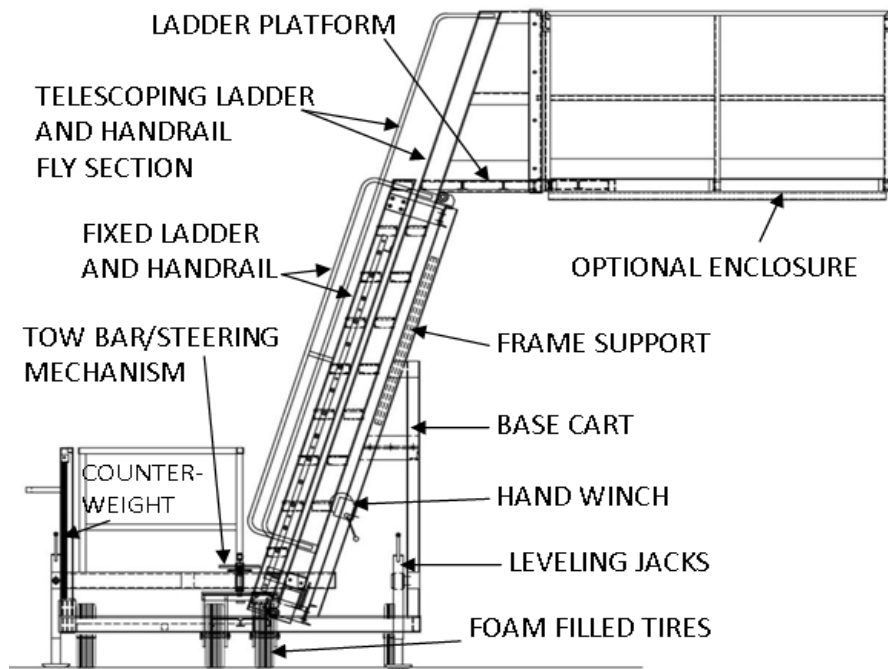

FIGURE 2-1
b) MECHANICAL EQUIPMENT**i) BASIC TC10 SIDE-MOUNT UNIT** See FIGURE 2-1 below.